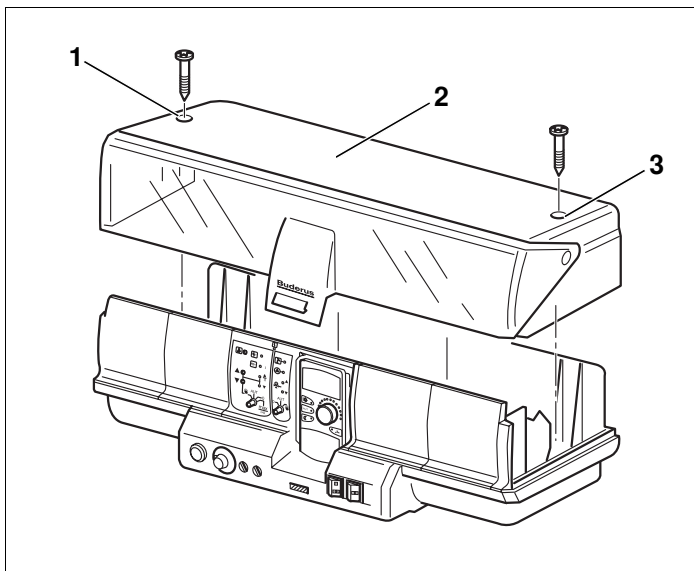

Fig. 3 Removing covers
- Unscrew the two screws on the top of the device (Fig. 3, **Item 1 and 3**).
- Lift cover (Fig. 3, **Item 2**).